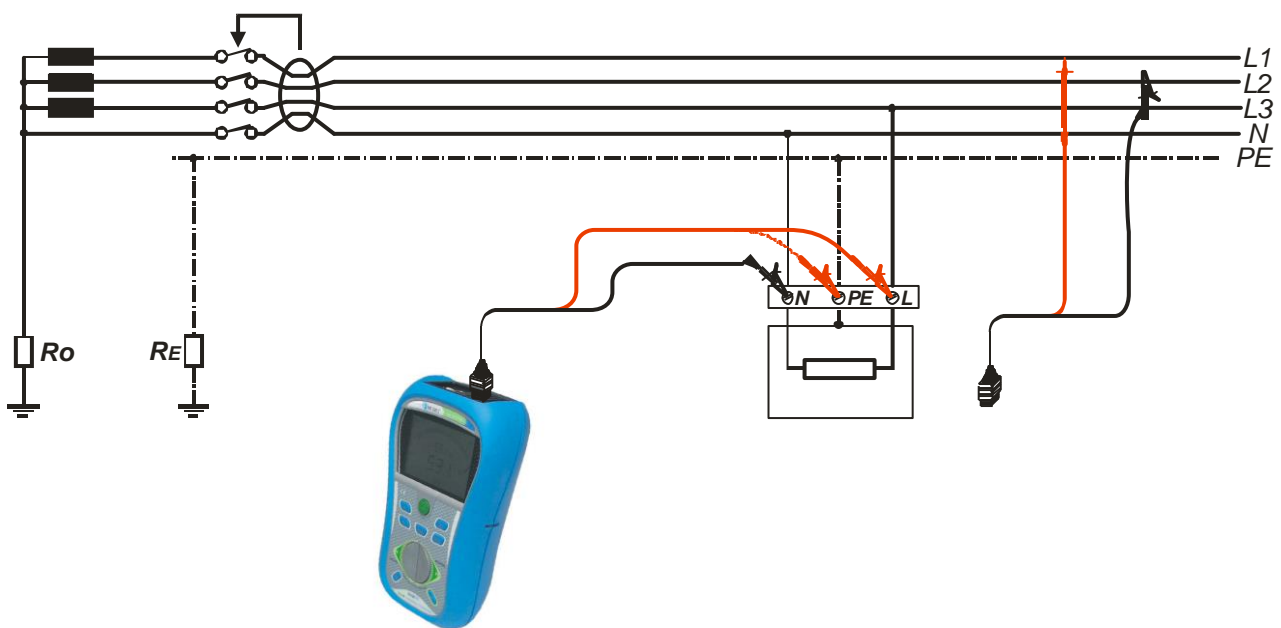

Figure 5.18: Connection of 2-wire test lead
- ❑ **Connect** test leads to the tested object (see **Figure 5.18**).